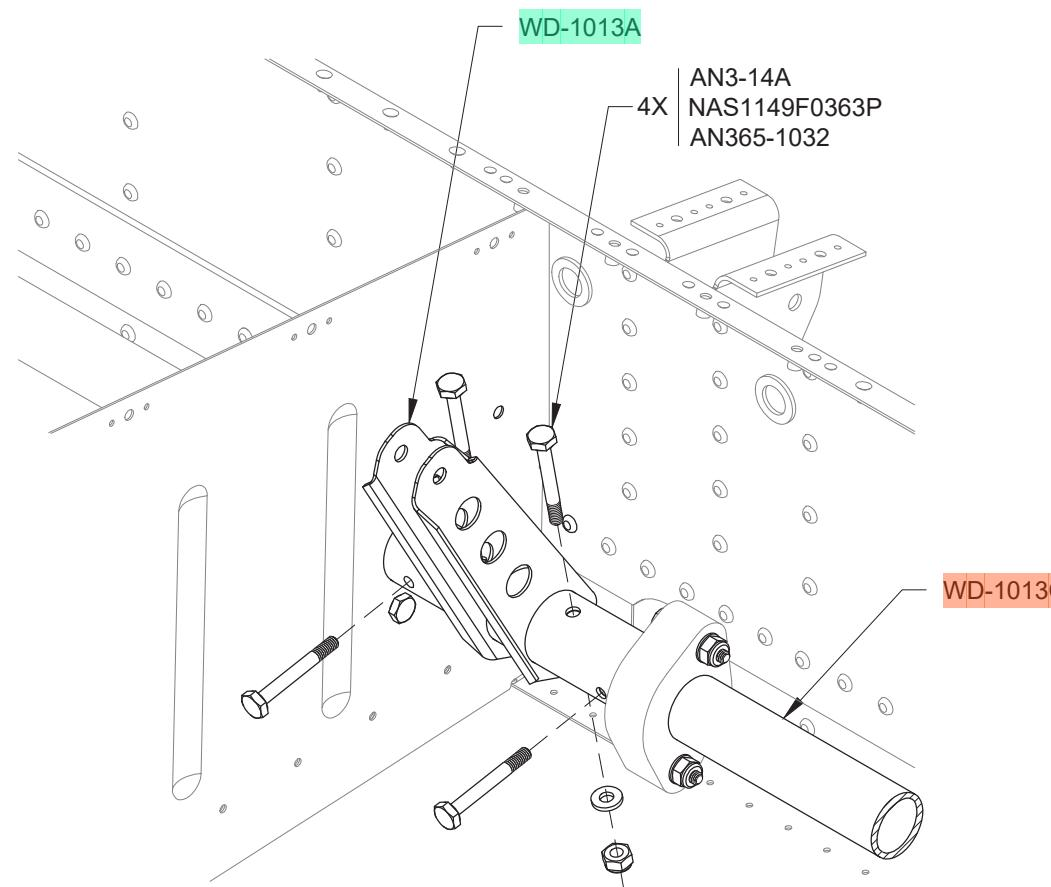

FIGURE 1:
Step 1: Bolt the **WD-1013A** Flap Crank to the **WD-1013C** Flap Torque Tubes per the call-outs in Figure 1.